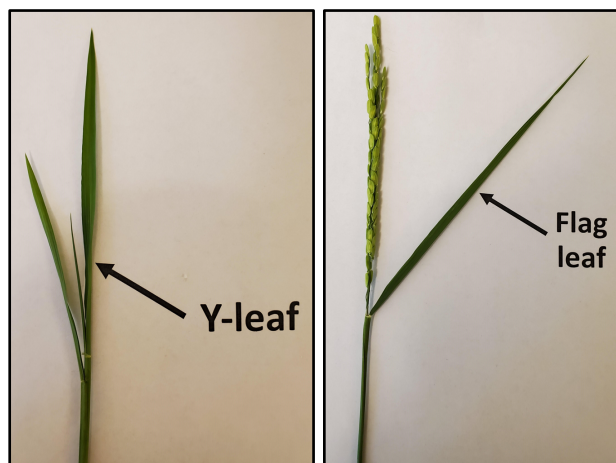

Figure 1. Rice Y-leaf and flag-leaf. Flag leaf is taken at flowering.
- The Y-leaf is the uppermost fully extended leaf with a visible collar (Fig. 1). The flag-leaf is the top-most leaf below the panicle (Fig. 1). That said the flag-leaf can be taken in the later stages of booting before the panicle has emerged.